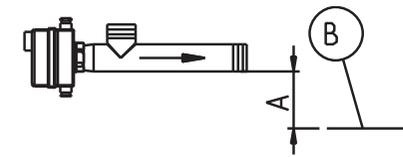
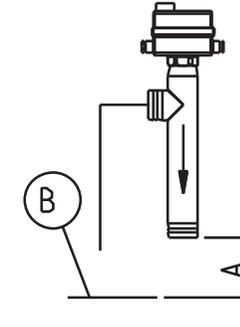

Fig. 2: Horizontal installation (above pool level)
Fig. 3: Vertical installation (above pool level)
Install flexible hose connections on the GENO®-EWT-L blower air preheater. Installation is made in the full flow between the pool and blower. The installation should be > 0.3 m (A) above the water surface (B), and is allowed to be horizontal or vertical (Fig. 2 and Fig.3).